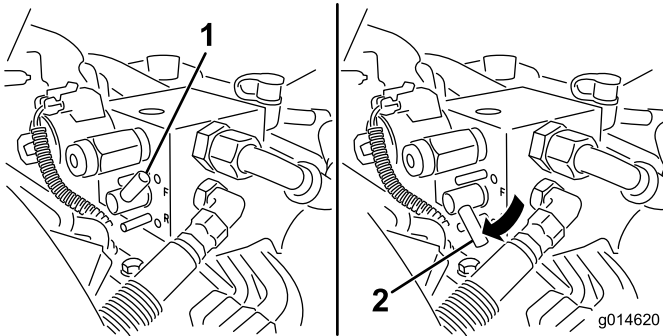

Figure 52
5. Rotate the backlap lever to the Reverse (R) position (Figure 52).